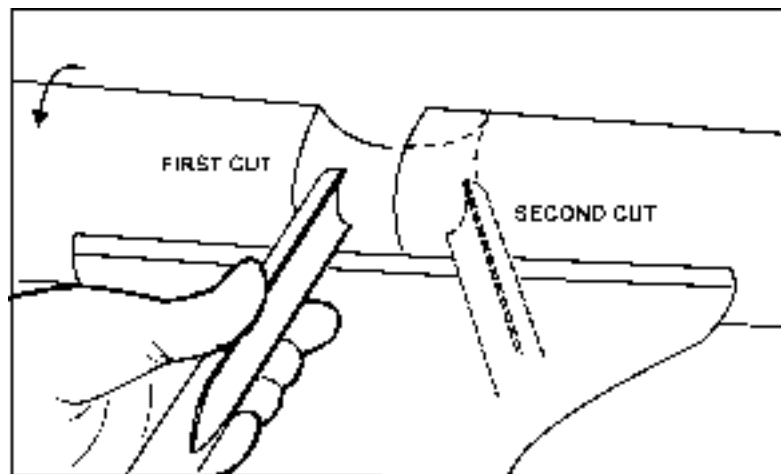

FIGURE 7
1. Use a spindle gouge. With the flute of the tool at 90 degrees to the workpiece, touch the point of the tool to the workpiece and roll in towards the bottom of the cove, Figure 7. **Stop at the bottom; attempting to go up the opposite side may cause the tool to catch.**